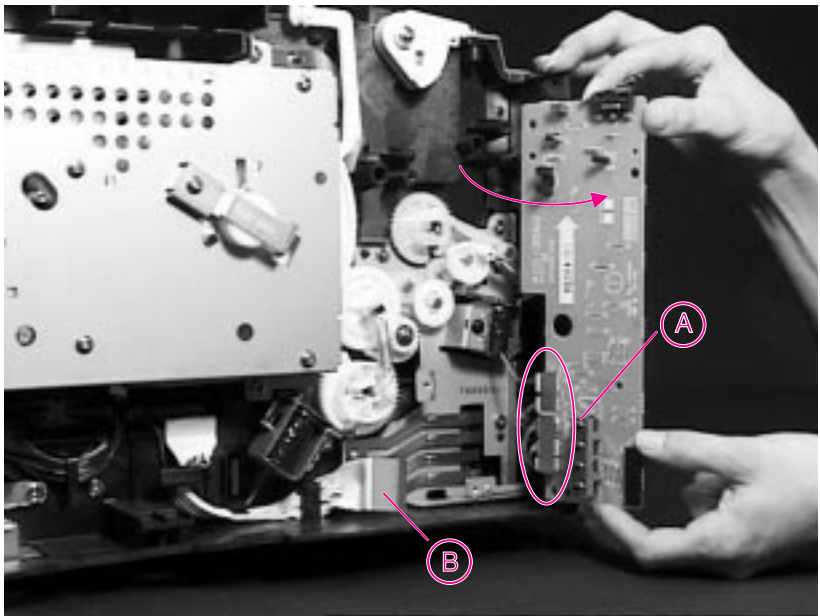

Figure 6-24 Paper Handling PCA
- 4 Rotate the PCA outward, and disconnect the five cables. See Figure 6-24.